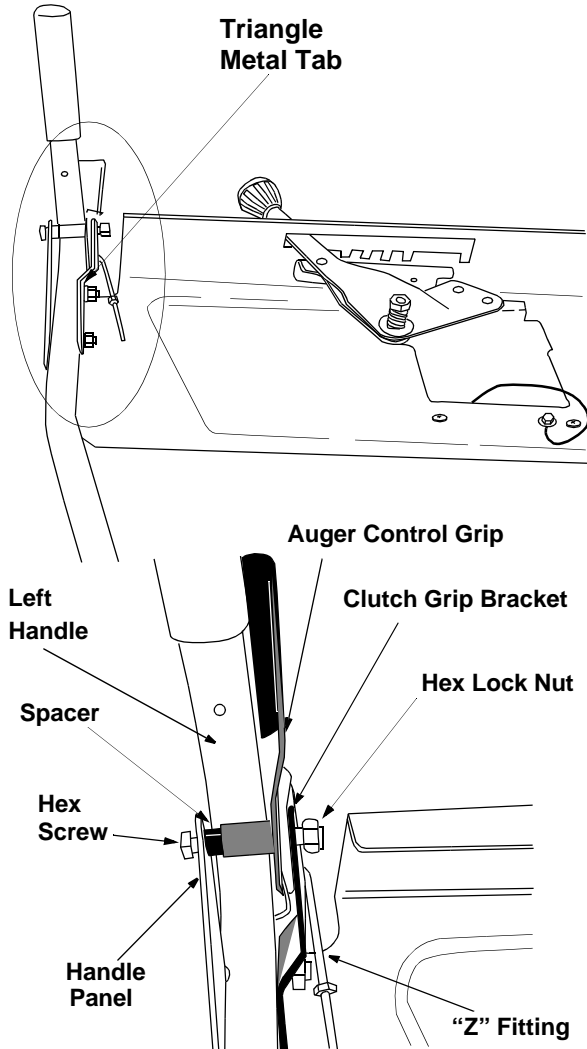

Figure 6
4. Place the auger control grip on top of the left handle. The triangular metal tab must be between the handle and the grip bracket. See Figure 6.
5. Secure with hex bolt, spacer and lock nut. See Figure 6. (Do not overtighten this bolt as it will prevent the grips from automatically returning to their upright position.)